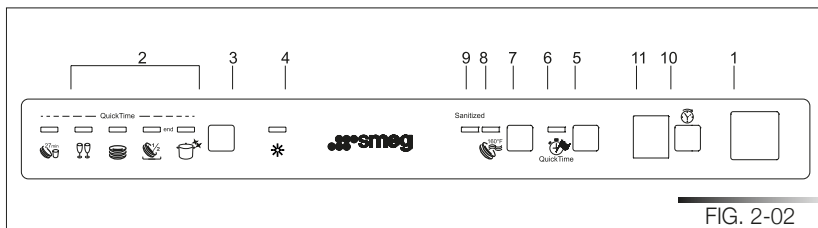

FIG. 2-02
The dishwasher is equipped with a control panel (see fig. 2-02) which is used to program the appliance and switch it on and off.
To run programmes **6, 7, 8, 9, 10**, select the required standard programme and then press the **quick time option button** (ref. 6 fig. 2-02).
Press the on/off button (ref. 1 fig. 2-02) to start the dishwasher. Then wait for one of the **program indicator lights** to turn on (ref. 2 fig. 2-02).
- Press the **program selection button** (ref. 3 fig. 2-02) several times until the indicator light corresponding to the required program turns on (ref. 2 fig. 2-02);
- To cancel the current program, open the door and press and hold down the **program selection** button (ref. 3 fig. 2-02) for a few seconds until the indicator lights of the fourth and fifth programs turn on (ref. pr. 4, pr. 5 fig. 2-03).
Before programming a delay, open the door of the dishwasher, select the required washing program (see para 2.2 “Setting the washing program and switching on and off”). Select the day by pressing the **Program delay** button (ref. 11 fig. 2-02); each time you press the button, the display increases the delay before the appliance starts by **1 hour**.
At the end of the program, the dishwasher emits a short beep and the **indicator lights of the fourth and fifth program** (ref. pr. 4, pr. 5 fig. 2-04) flash. Turn off the appliance by opening the door and pressing the **on/off button** (ref. 1 fig. 2-02).